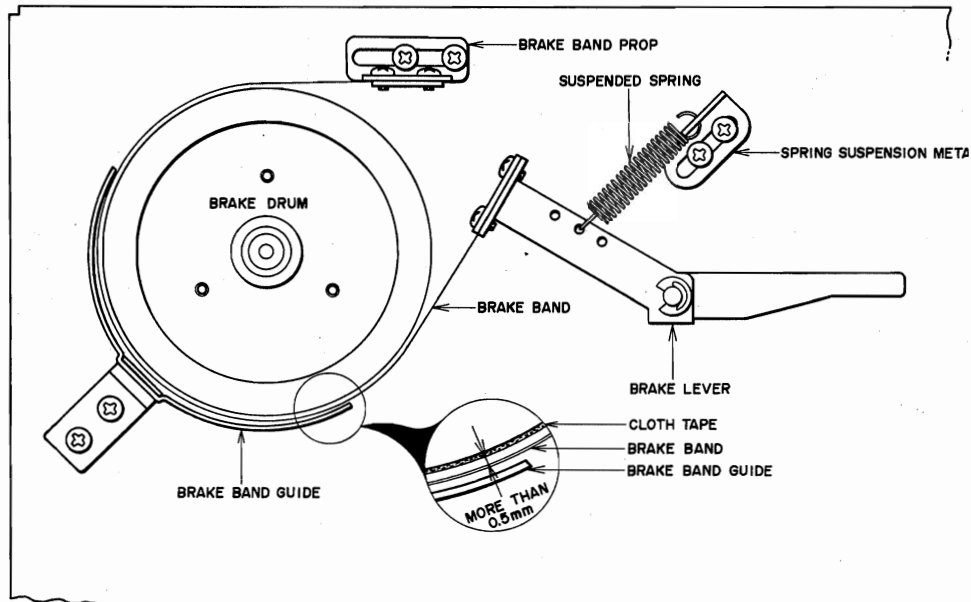

Fig. 10
3. BRAKE TENSION ADJUSTMENT (Refer to Figs 10, 11)